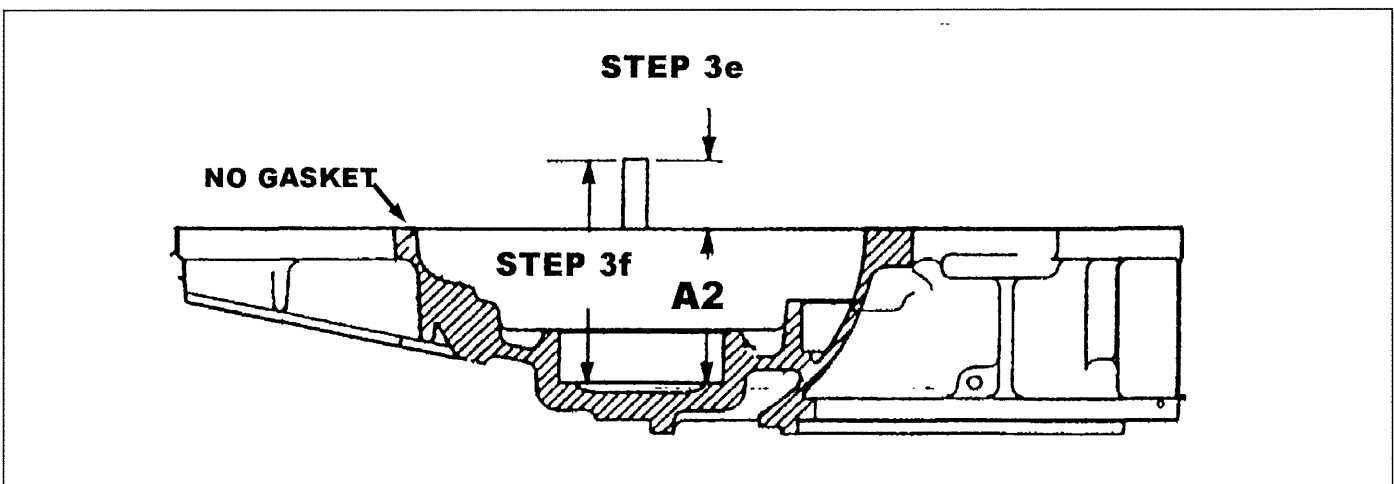

Figure 1-4: Cover cut away
3. Measure the distance from the cover gasket surface (do not use a gasket to make this measurement) to the bearing cup seat in the cover as shown in figure 1-4.